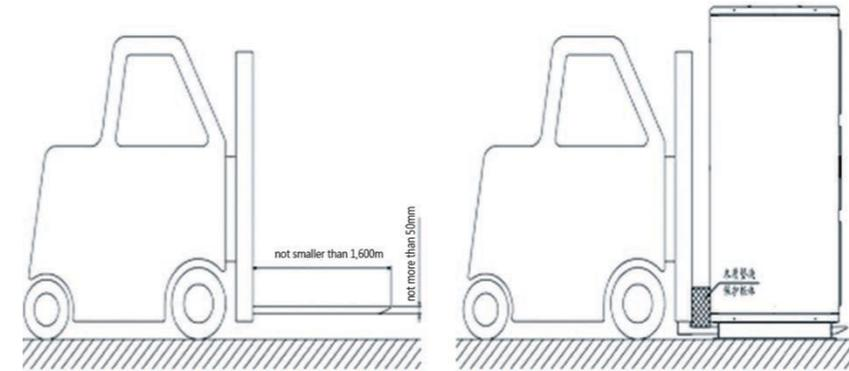

Figure 6.5 Forklift Handling Diagram
2) Forklift handling: The forklift used for handling must be able to bear the cabinet weight and its fork may not exceed 1600 mm in length, 170 mm in width and 50 mm in thickness, as indicated in Figure 6.5.